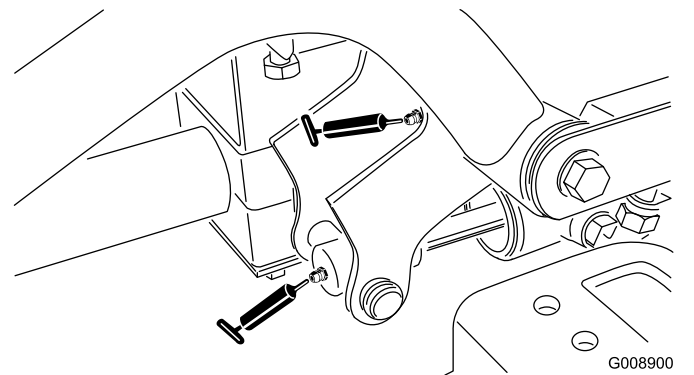

Figure 66
- Right front lift arm pivot and lift cylinder (2 fittings—Figure 66)